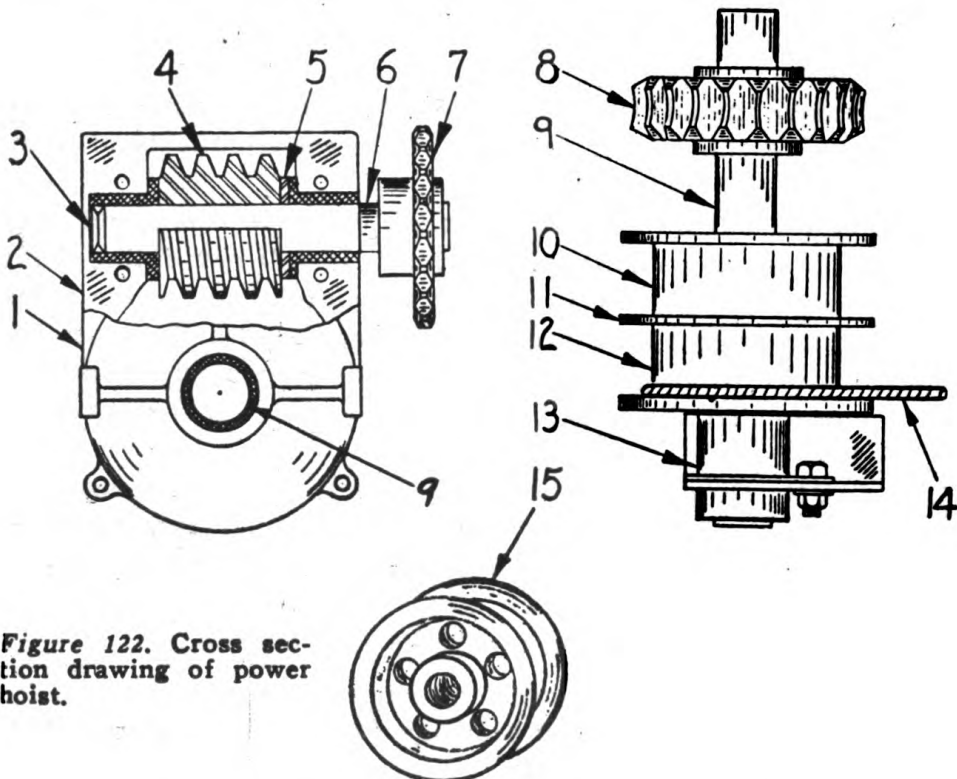

Figure 122. Cross section drawing of power hoist.
- (a) After removal of the Main Jackshaft and Crawler Clutch Shaft, take off the bearing (13), Figure 122 and cable drum (10), (11), (12), on the outside of the tractor unit housing alongside the engine. Take out the bolts holding the hoist in place and the hoist assembly may be removed.
- (c) Sprocket (7), Figure 122 is keyed and set screwed to shaft (6), worm (4) is keyed and set screwed in place with thrust washer (5) against hub and thrust button (3) in housing at end of shaft.